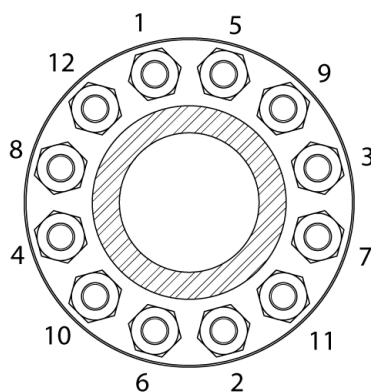

Figure 3-4. Bolt Tightening Sequence (12-Bolt Flanges)
2. On the inlet side only, tighten the bolts to 25% recommended torque following the sequence in Figure 3-4.
3. On the inlet side only, tighten the bolts to 75% recommended torque following the sequence in Figure 3-4.
4. On the inlet side only, tighten the bolts to 100% recommended torque following the sequence in Figure 3-4.